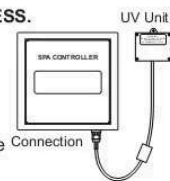

FIGURE 2
1. Turn the breaker to the spa OFF. DRAIN YOUR SPA. Disconnect the CLEARRAY System from the controller, Figure 2.